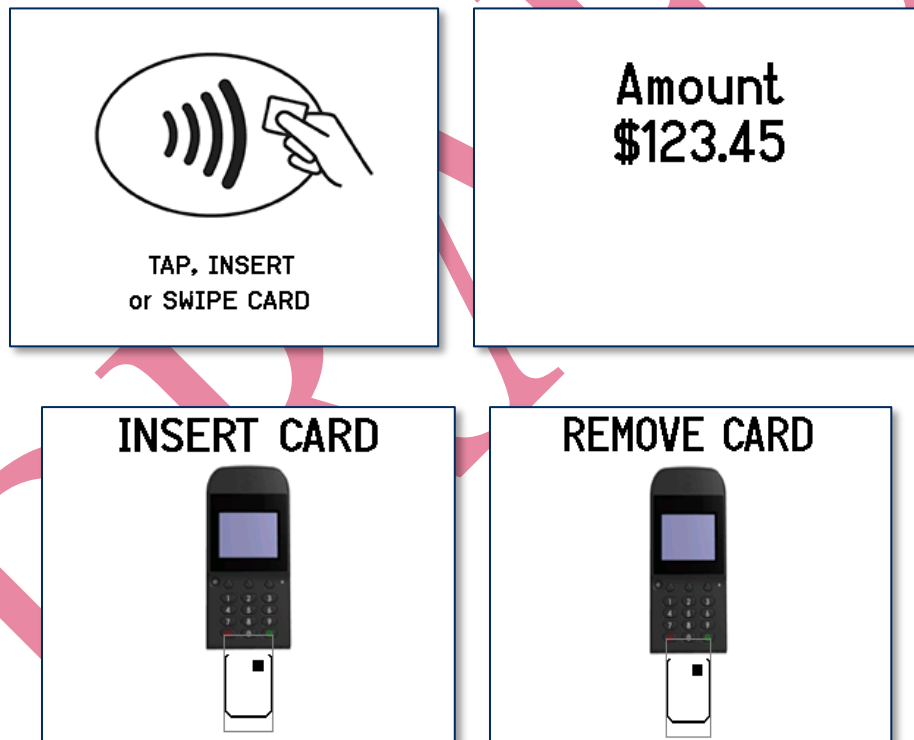

Figure 6-18 - Example Card Insertion Screens
- 1) Wait for the display to show an action prompt. If the host has directed the device to accept contactless payments for the transaction, the device toggles between the transaction amount and an action prompt (see **Figure 6-18** for examples).